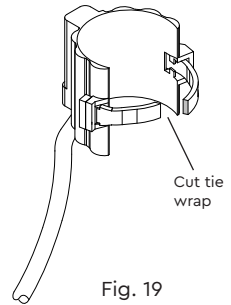

Fig. 19
- Remove the existing reed switch by cutting the securing tie wrap and pulling away from the body Fig. 19.